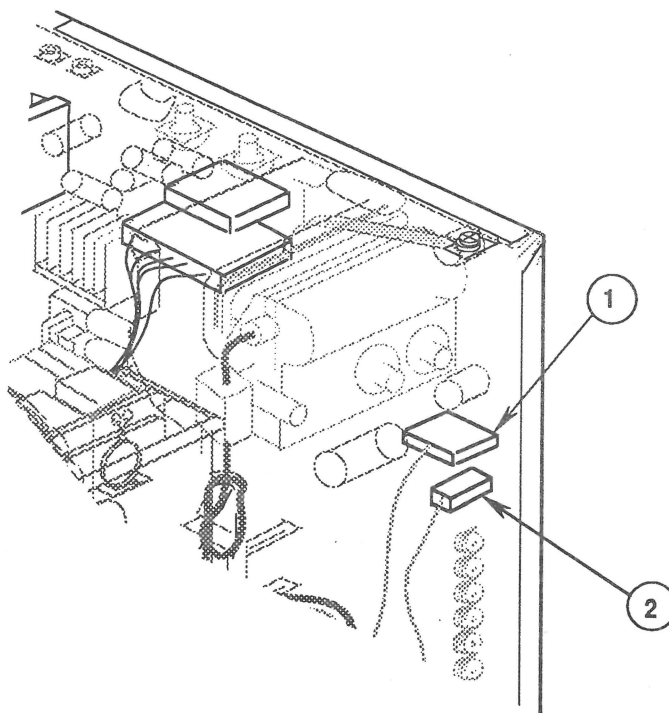

FIGURE 36
- 2-wire connector labeled **T** (Figure 36, #1)
- Single connector labeled **GB** (Figure 36, #2)